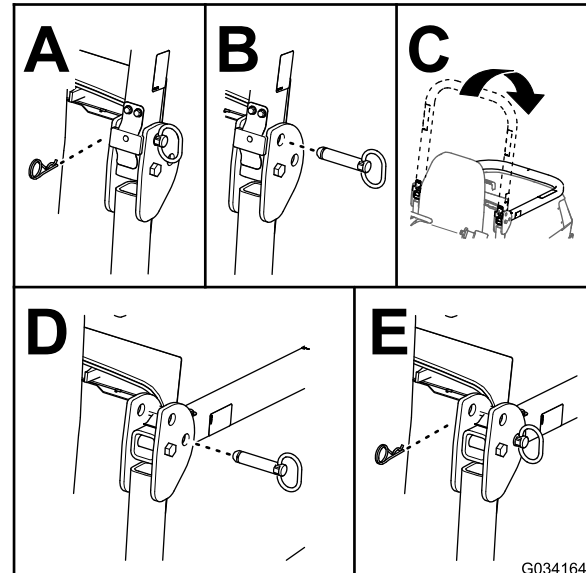

Figure 33
2. Remove the cotter pins and pins from the roll bar (Figure 33).
3. Lower the roll bar and secure it in place with the pins and cotter pins (Figure 33).